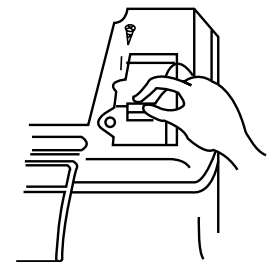

Figure 3
2. Remove the screws on the left of wiring access panel and open the panel upward. (Figure 3)